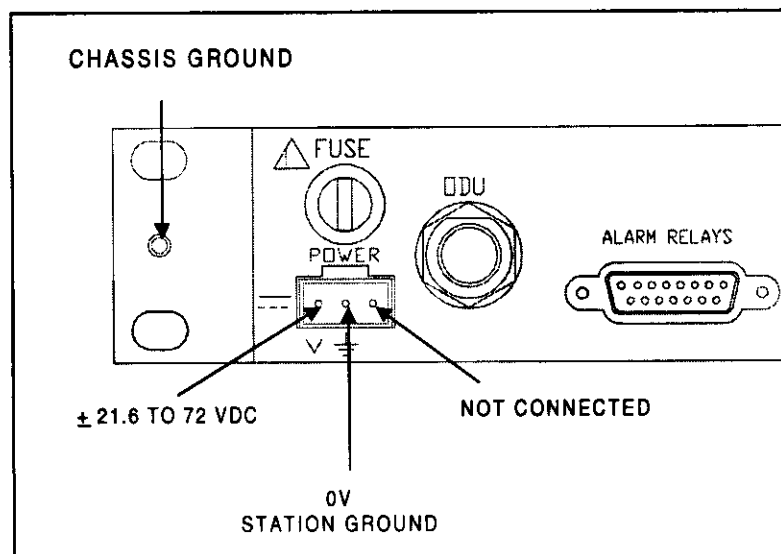

Figure 3-8. IDU Power Connector Detail
- Step 7.** The XP4 requires DC power (±21.6 to 72 Vdc) via a 3-pin connector. Ensure that the plug provided in the installation kit is wired as detailed in Figure 3-8. Recommend use of 14 gauge wire (1.5mm2